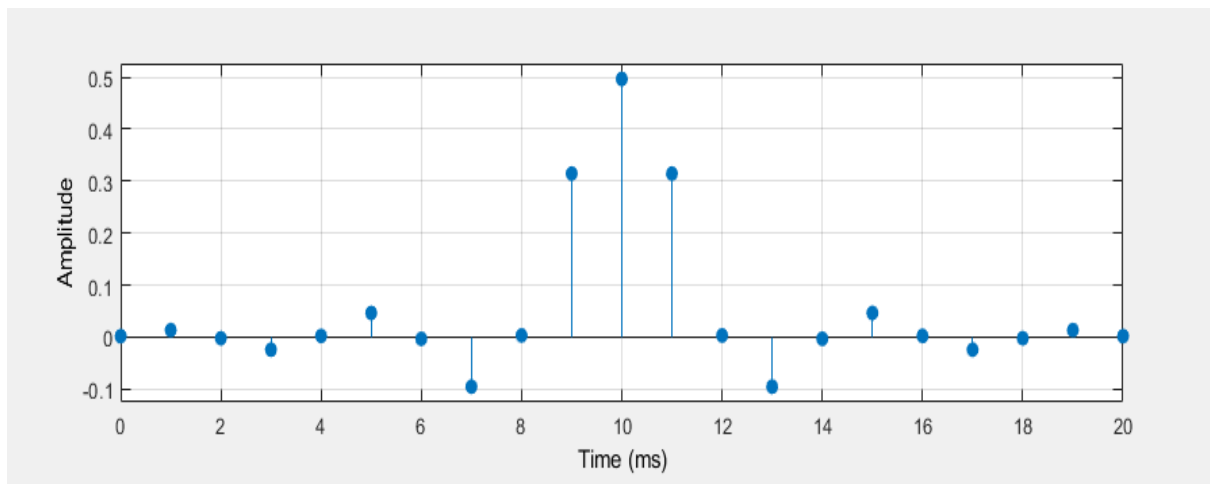
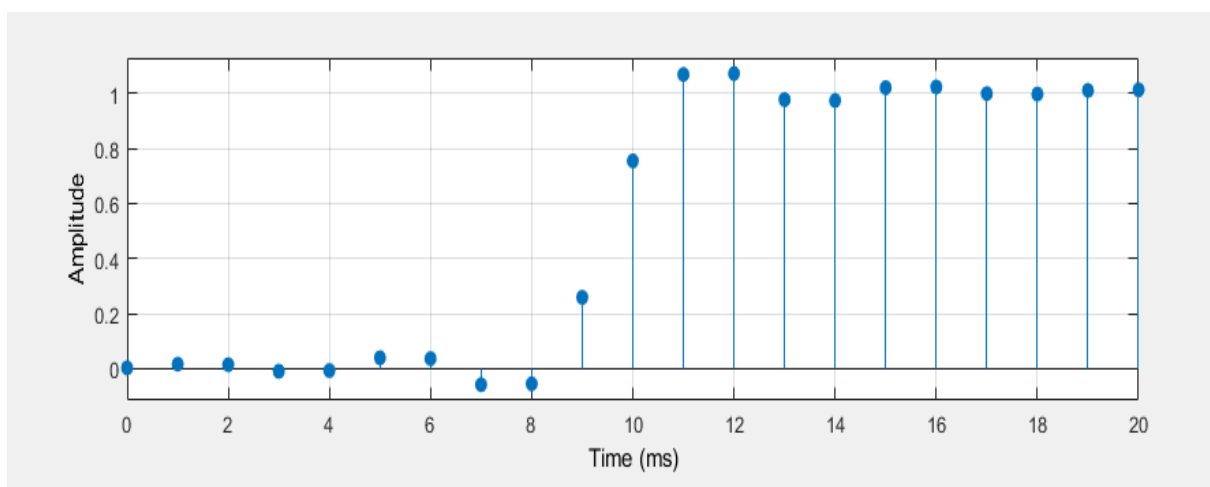

Figure 3. Impulse Response of the FIR Filter.
Figure 4. Step Response of the FIR Filter.
8. Use the toolbar to view additional filter responses, including the impulse response (Figure 3) and the step response (Figure 4).